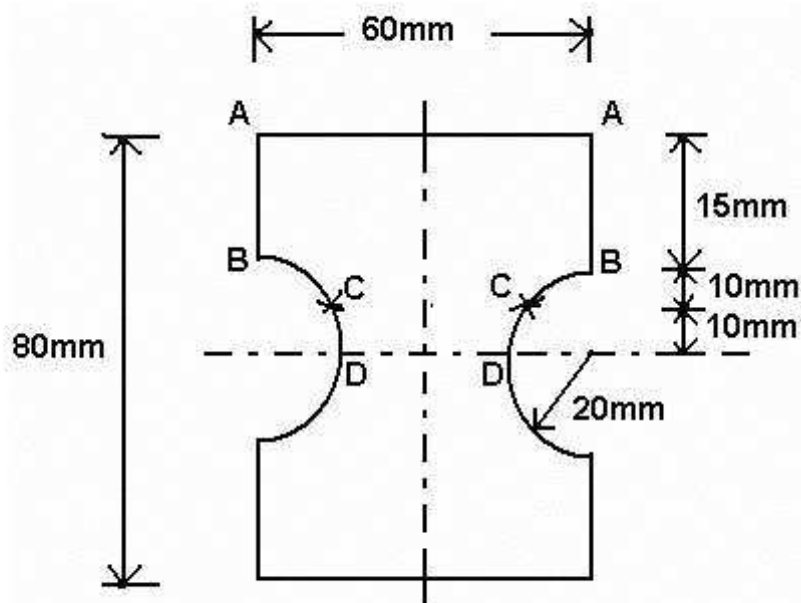

Figure 4
4. For a section shown in figure4. determine the average shearing stresses at A,B, C and D for a shearing force of 23kN. Also sketch the shear stress distribution across the section. [16]